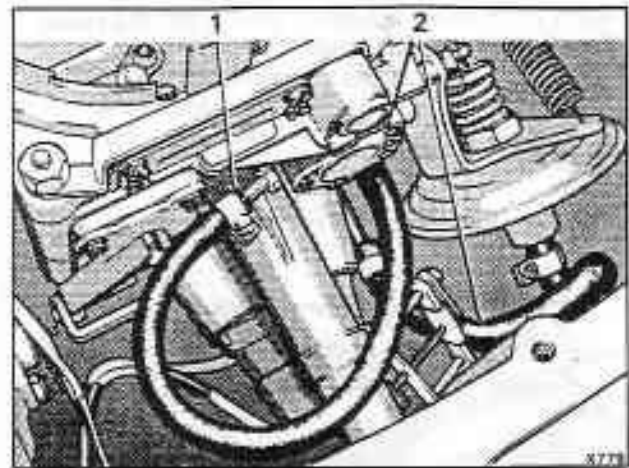

Fig. K11-22 Hoses clamped and blanked for dynamic ignition timing
2. Remove the air chest cover and blank off the gated orifice hose (see fig. K11-22).
2. Disconnect and blank off the gated orifice hose (see fig. K11-22).
6. With the engine running, clamp the carburettor throttle jack/damper hose as shown in figure K11-22 (this will ensure that the throttle jack stays retracted when the engine is stopped).
14. From inside the air chest, disconnect the vacuum hose to the distributor capsule. Fit a blank to the open end of the hose to the carburettor and connect a suitable vacuum pump (i.e. Mityvac) to the capsule. This operation is shown in figures K11-22 and K11-23.